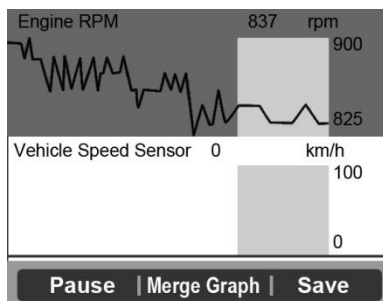

Figure 6.14
- If the “**Merge Graph**” on the bottom appears when a PID is selected to view, merged graph information is available. (Figure 6.14)